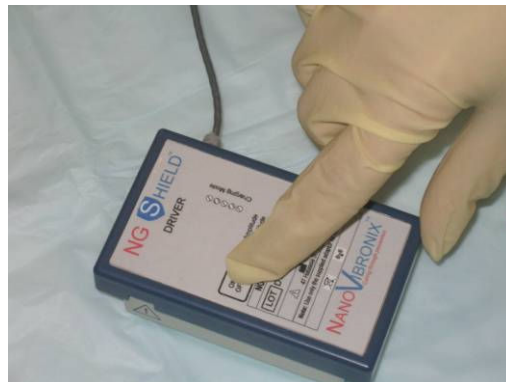

Figure 7: Driver deactivation
1. Press the ON/OFF button till you hear a beeping sound. Once the driver is off, LEDs should not be blinking (see Figure 7).